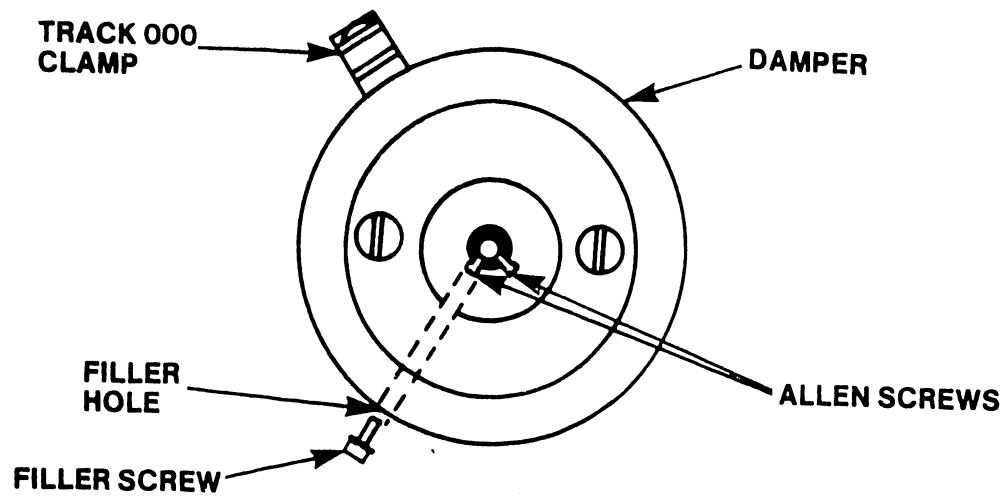

FIGURE 2 ALLEN SCREW LOCATIONS
5. Hold track 000 clamp steady and rotate damper until Allen screws are positioned as shown in figure 2.